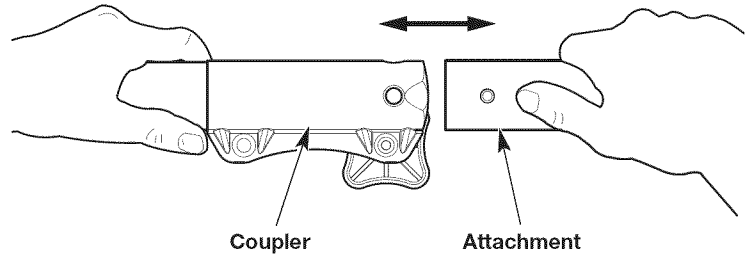
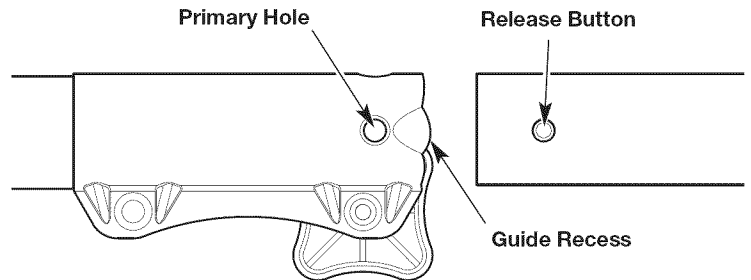

Fig. 4
Fig. 6
4. Align the release button with the guide recess (Fig. 6).
5. Push the attachment straight into the coupler (Fig. 4) until the release button snaps firmly into the primary hole (Fig. 6).
3. Press and hold the release button (Fig. 6).
4. Pull the attachment straight out of the coupler (Fig. 4).